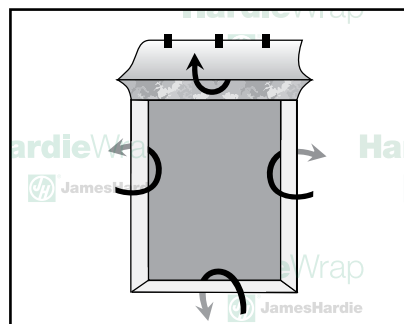

figure 5
**Step 3:** Fold the remaining three flaps in through the opening, fastening them inside with staples (fig. 5).